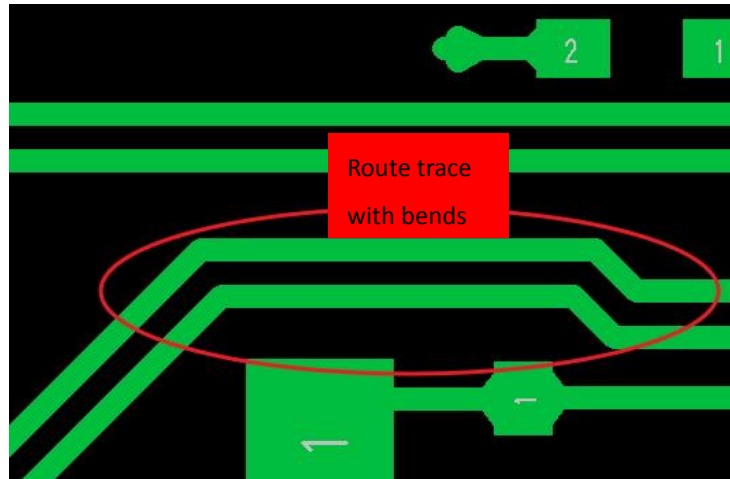

Figure 3
- It is recommended to straight route USB3.0 differential pair and less route them with bends as figure 3.